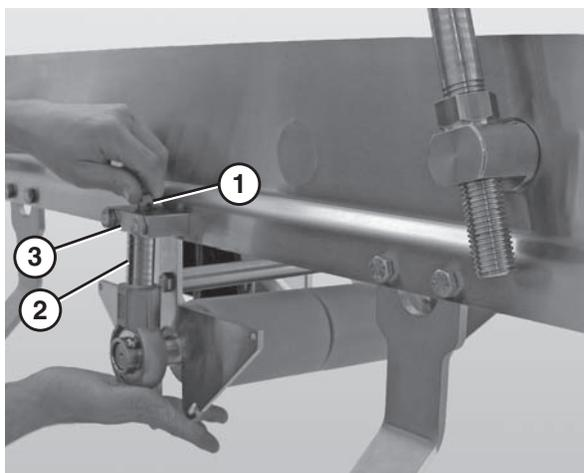

Figure 69
14. Remove the bolt (**Figure 69, item 1**) that connects the drive shaft assembly (**Figure 69, item 2**) to the block shaft mount (**Figure 69, item 3**).